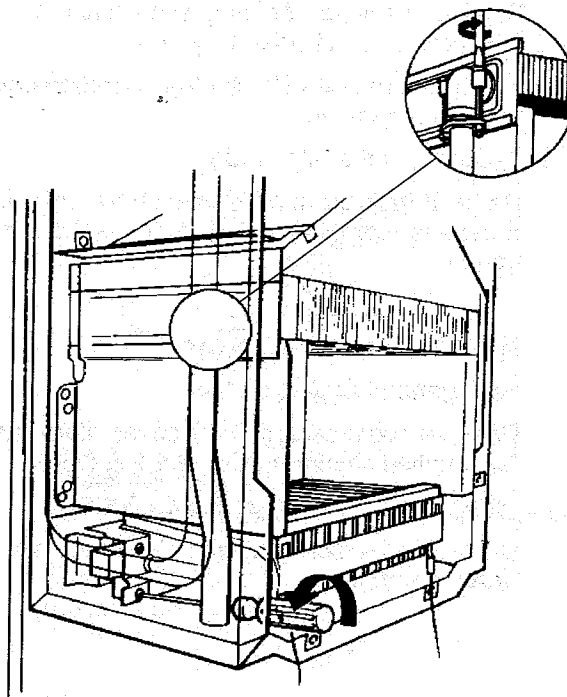

Fig. 28
Refer to fig. 28.
- 8.8.8 Disconnect upper flanges by removing 2 screws on each flange (fig. 28).